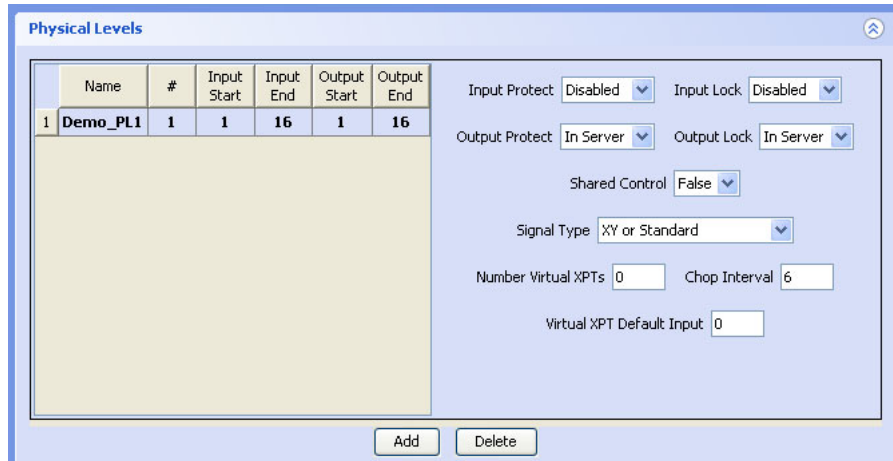

Figure 7-25. Physical Levels Section
- 3 In the right-hand area of the 'Physical Levels' section (Figure 7-25), update options in the fields provided: